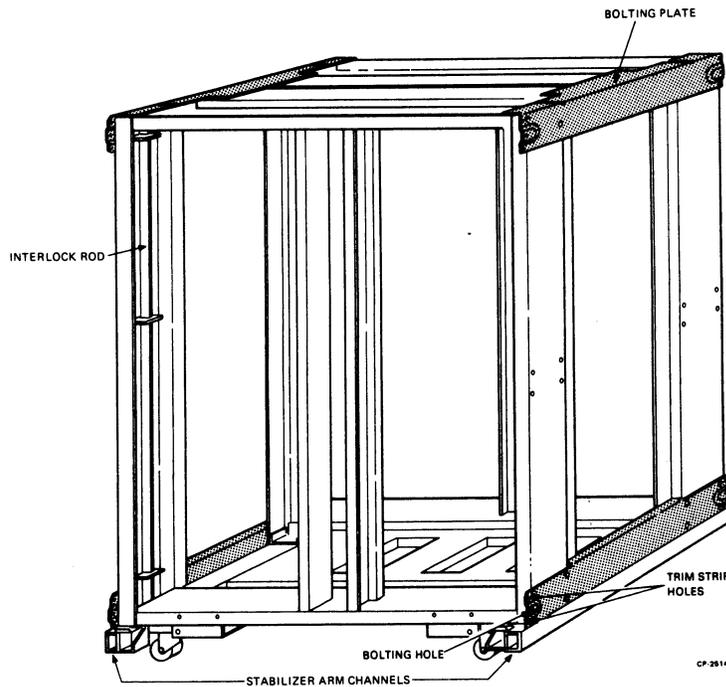
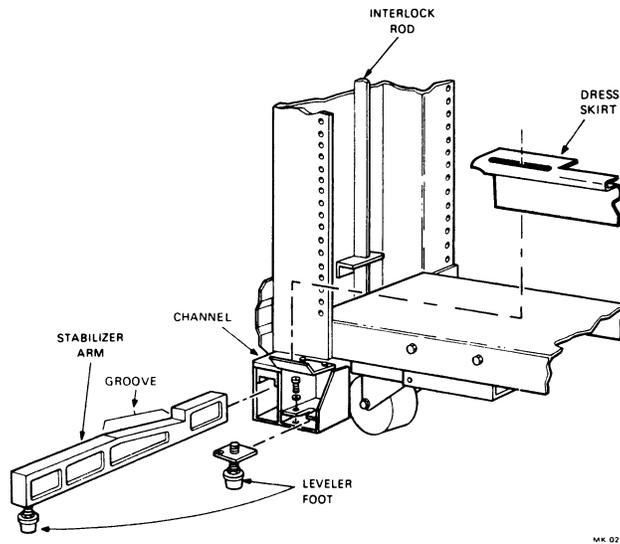

Figure 2-2 Cabinet Frame, Front View
Figure 2-3 Leveler Foot and Stabilizer Arm
Each cabinet has two mechanical interlock rods, one located in the middle of each front vertical upright, positioned over a stabilizer arm channel (Figure 2-2). To remove the stabilizer arm, untape it and, reaching into the cabinet, lift the interlock rod while sliding the arm completely out of its channel. Screw a leveler foot (shipped loose piece) into the end of each arm (Figure 2-3).
1. Install the leveler feet (shipped loose piece) into the cabinet frame (Figure 2-3).
Each cabinet has four bolting plates: one on each upper and lower side edge (Figure 2-2). To bolt the cabinets together, proceed as follows.
3. Hook the dress skirt (shipped loose piece) over each tab at the lower front corners of the cabinet (Figure 2-3).